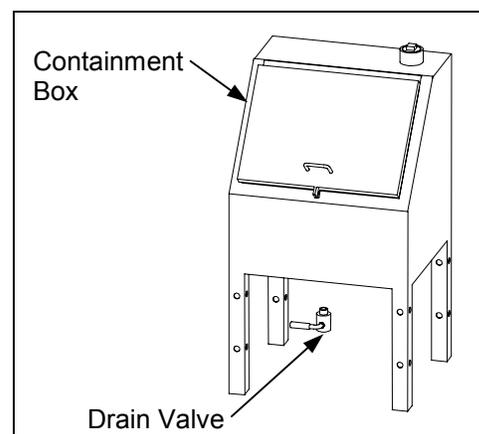

Figure 1
8. Install the drain valve by threading it into the bottom of the containment box. (See Figure 1.)